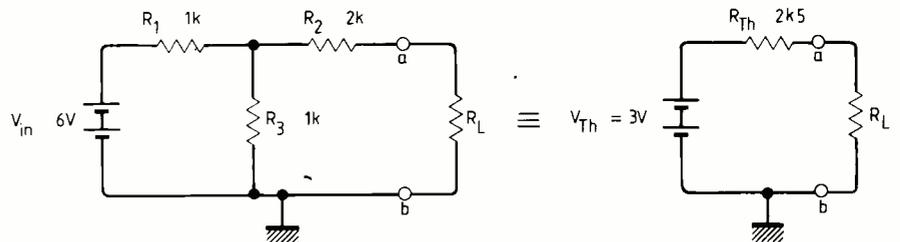

Fig. 3. Making use of the Thévenin theorem; both circuits have the same responses at the output terminals a-b.
Frequently in circuit analysis, we are interested in determining how the voltage varies at two terminals. In the amplifier circuit, for example, the effect of changing the load resistor may be required. Thévenin's theorem reduces circuits using resistors, capacitors and inductors, along with voltage or current sources to a simple series circuit. To illustrate the theorem, the circuit in Fig. 3 is used as an example. To find the Thévenin voltage, denoted V_{TH} , first open the terminals a-b for the network on the right and then calculate the open circuit voltage without R_L connected. For this circuit, V_{TH} , is found using the voltage divider
a-b with the voltage source shorted. For the circuit shown, R_{TH} is the parallel combination of R_1 and R_3 in series with R_2 and equals $2.5\text{ k}\Omega$. If current sources are present in a circuit, they are opened (removed) when finding R_{TH} . For the Thévenin equivalent circuit in Fig. 3, it's easy now to calculate the output voltage across the terminals a-b as R_L varies. All that's needed is application of the voltage divider principle as discussed in the last section. More complex circuits are reduced in a similar manner, even though V_{TH} and R_{TH} may be more difficult to determine. But it's easier than the alternative of solving simultaneous loop equations for each different value of R_L .
- Question 5. If $R_2 = 1k$ instead of $2k\Omega$ in Fig. 3, what is the value of the Thévenin voltage V_{TH} ?
- Question 6. If $R_2 = 1k$ instead of $2k\Omega$ in Fig. 3, what is the value of the Thévenin resistance R_{TH} ?